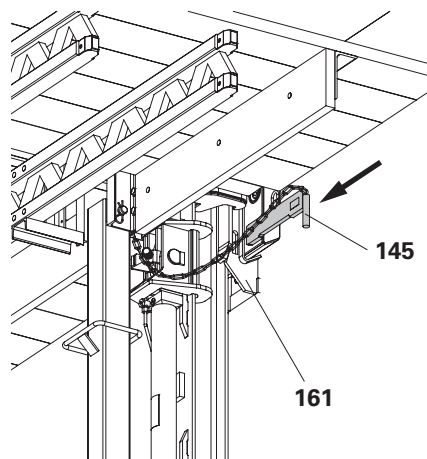

Fig. D2.05
5. Insert the Ledger ACS (**145**) into the Climbing Shoe II (**161**). (Fig. D2.05)